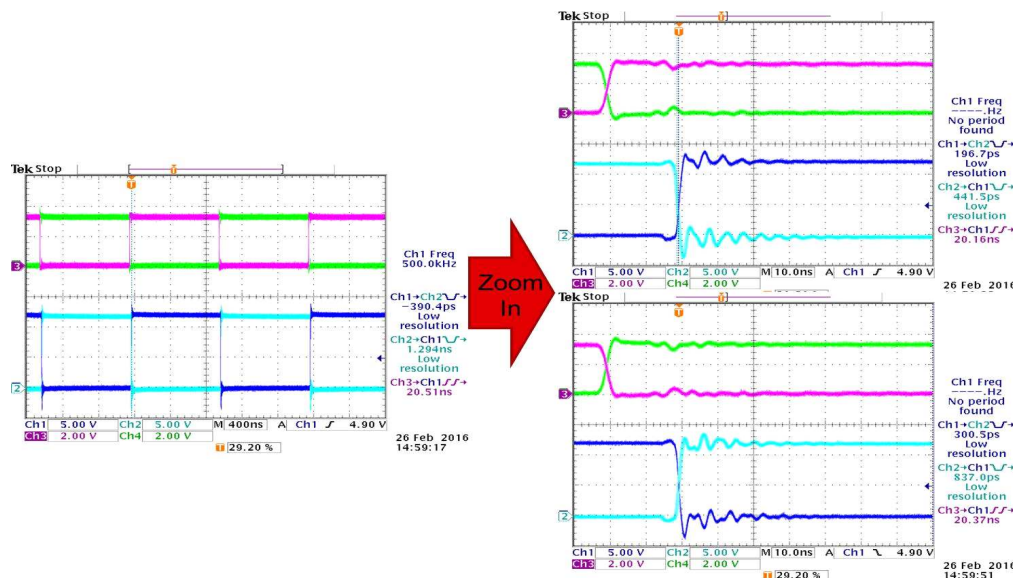

Figure 3. Example Input and Output Waveforms (Channels 3 and 4 are PWM Inputs, Channels 1 and 2 are Outputs)
1. Make sure that Section 5.3.6 is implemented for setting up all the equipment before starting the power-up sequence. Figure 3 can be used as a reference.
1. Stable pulse output on the channel-A and channel-B in the oscilloscope (refer to Figure 3);